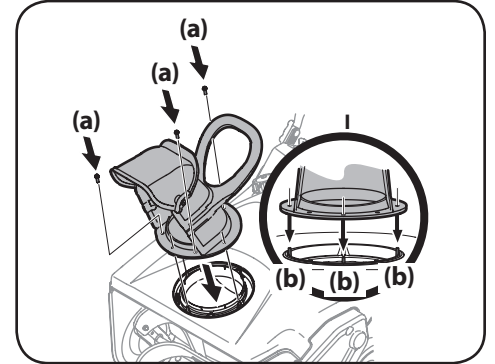

Figure 2-8
3. Align the holes in the chute base with the three tabs (b) in the lower chute as shown in Figure 2-8, Inset I. Secure the chute base with the hex washer screws (a) removed in Step 2. See Figure 2-8.